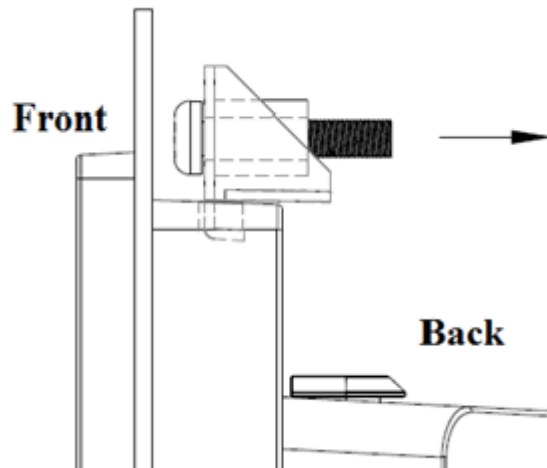

Figure 2.26 Hook Bracket Locations
3. Put the hook brackets into the holes according to the arrow and hookup the machine. (See Figure 2.26)